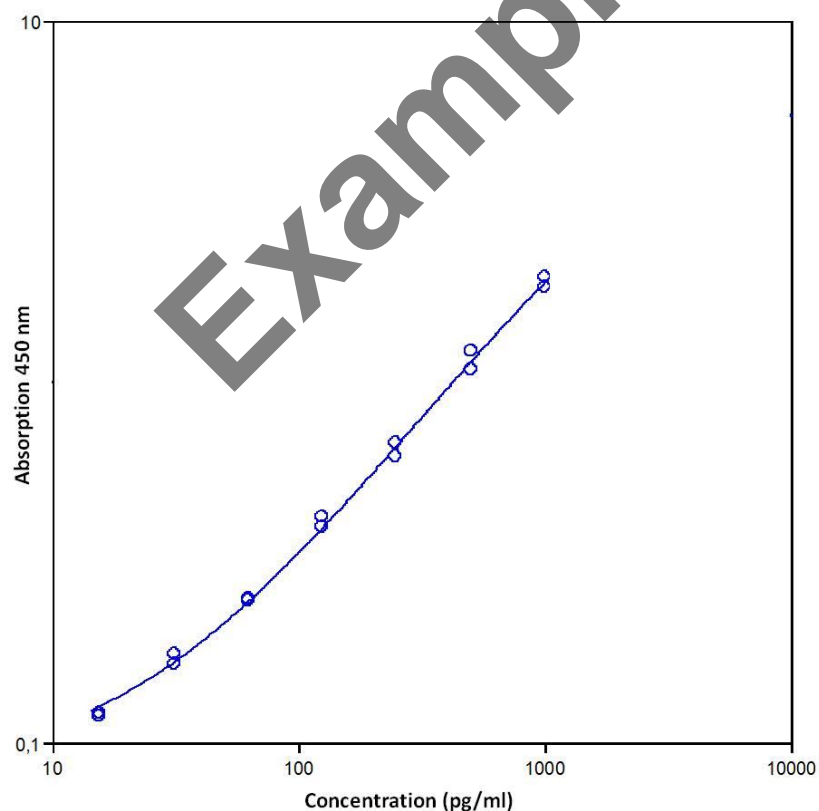

Figure 7 Representative standard curve for human IL-17F ELISA. Human IL-17F was diluted in serial 2 fold steps in Calibrator Diluent
- A representative standard curve is shown in Figure 7.